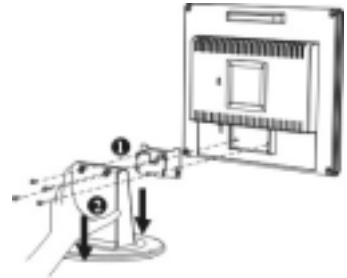

Figure 1-3
1. Unscrew screws of the hinge bracket ❶
2. Remove the stand from LCD monitor ❷ (See fig. 1-3)
Before installing to mounting device, please refer to Fig.1-3.